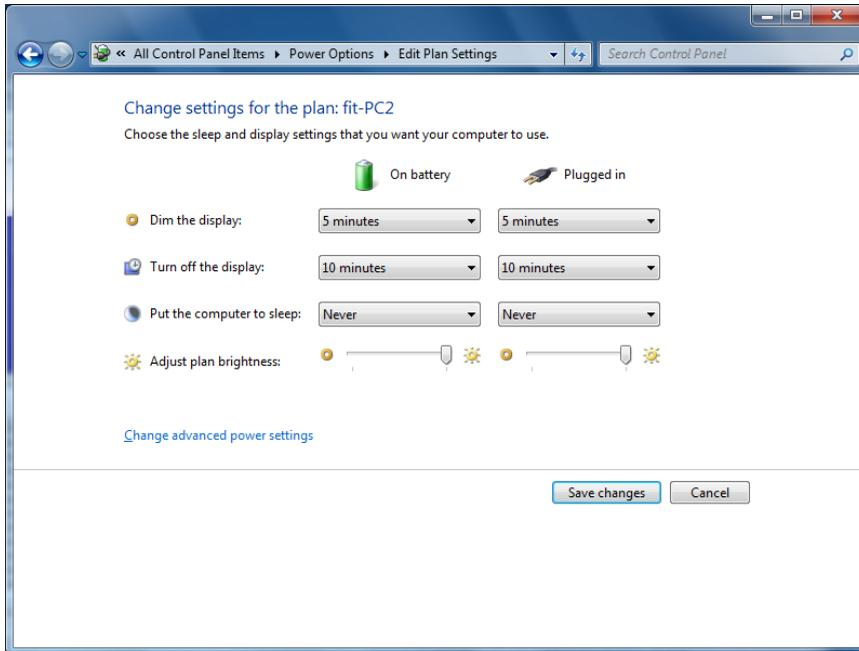

FIGURE 3-5 Station PC Default Power Settings
Step 3 Specify the default time settings as shown in Figure 3-5.